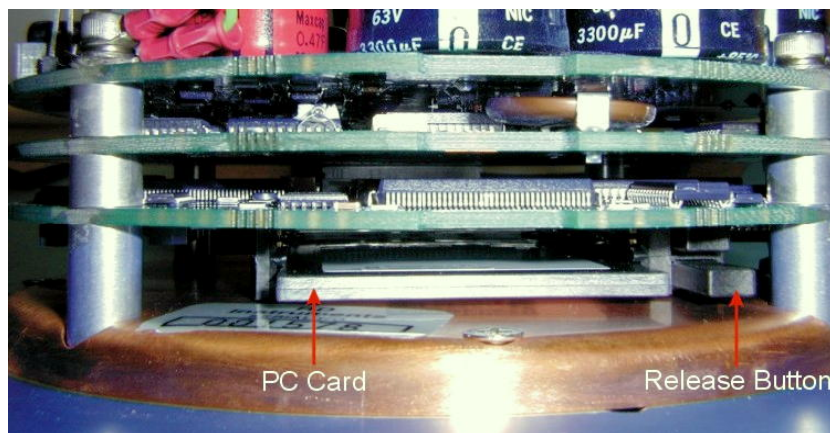

Figure 5. Memory Card Overview
Memory cards are not included with the Mariner ADCP. Two PCMCIA memory card slots (see Figure 5) are available, with the total memory capacity not to exceed 2GB. The PC Card recorder is located on the Digital Signal Processor (DSP) board inside the Workhorse's electronics. To recover data, the card can be removed and used in a personal computer (PC), or left in the Workhorse, and accessed by using *WinSC* (see the WinSC and PlanADCP User's Guide).